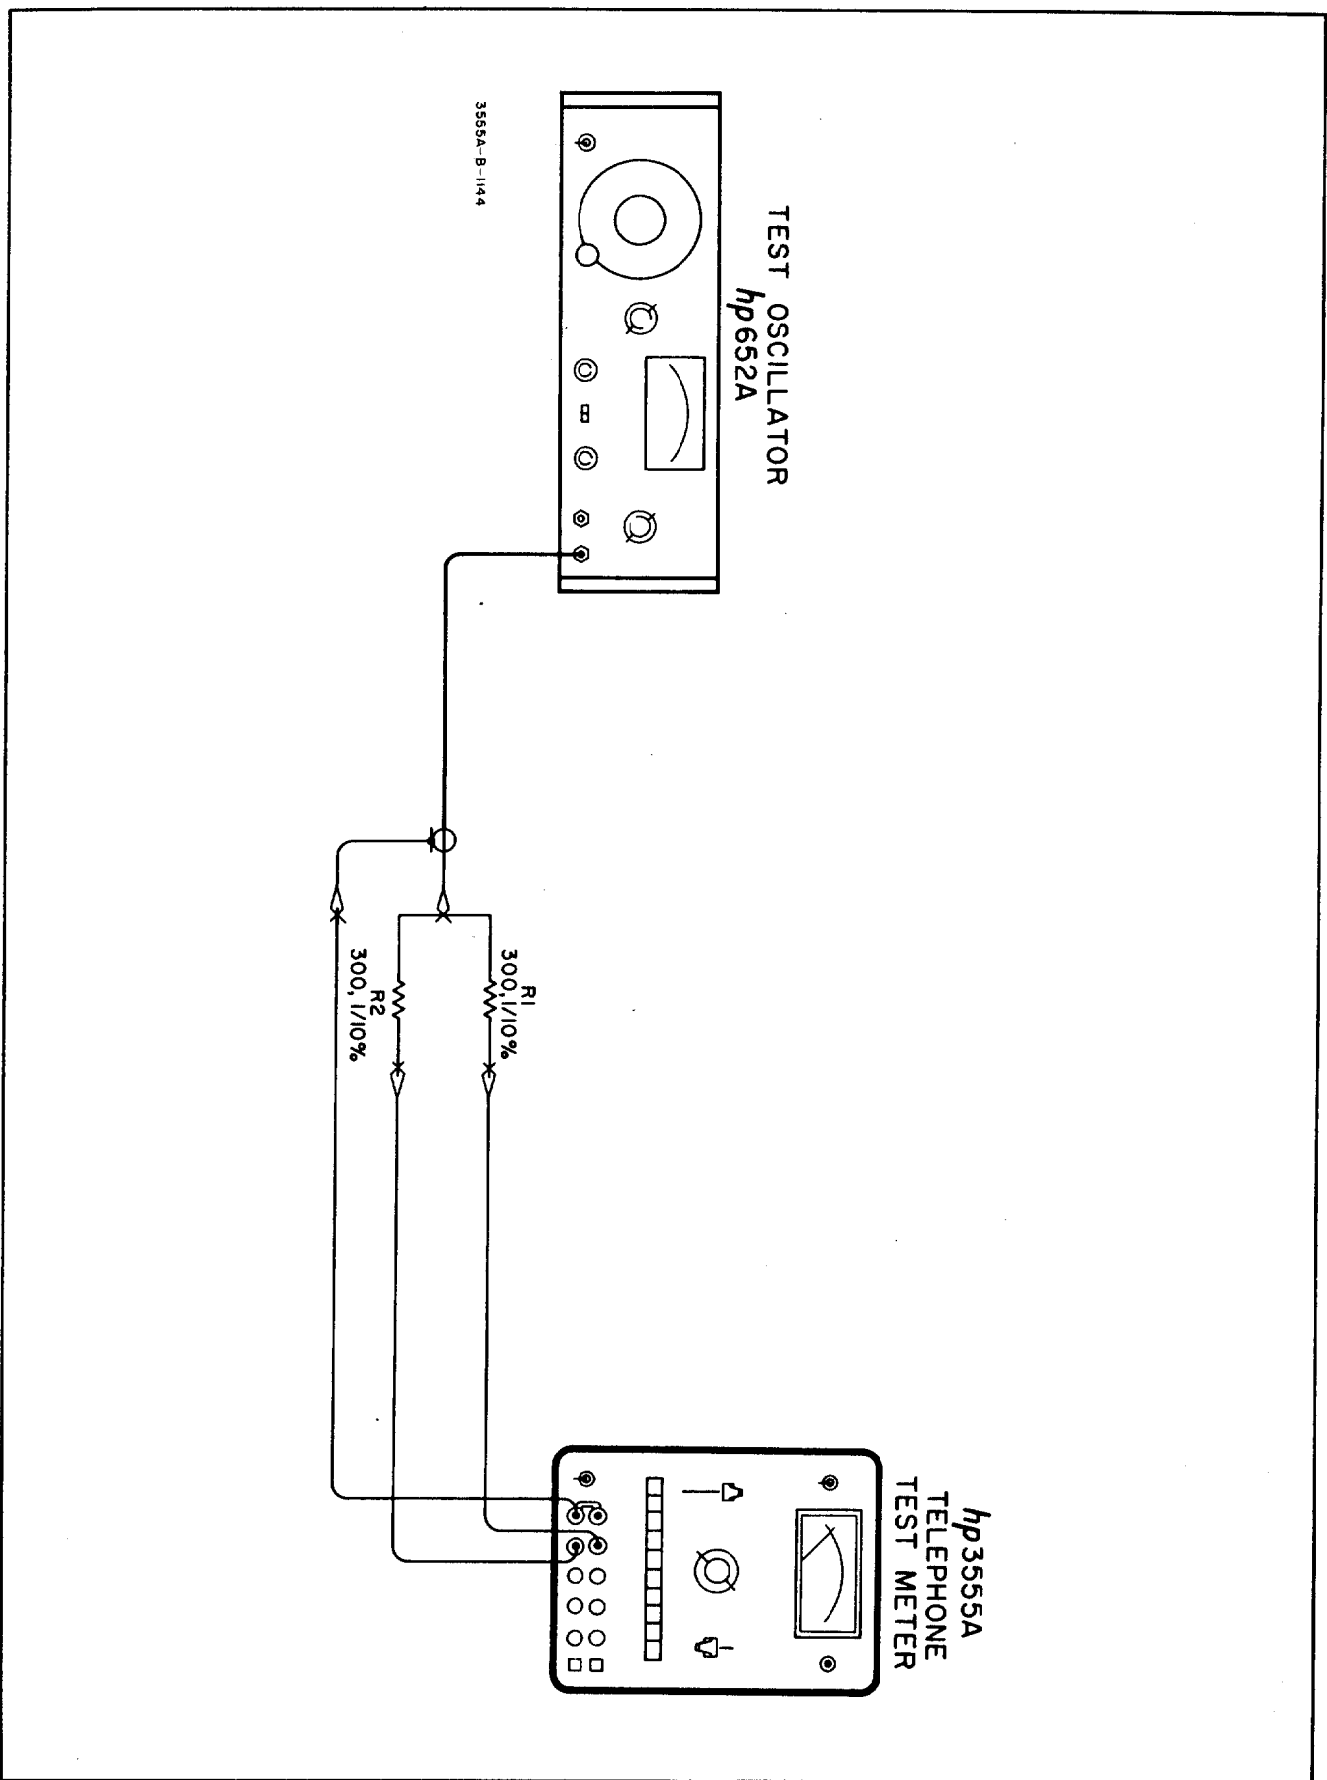

Figure 5-3. Input Balance Test Setup
- c. Change the 3555A input connection to that shown in Figure 5-3.